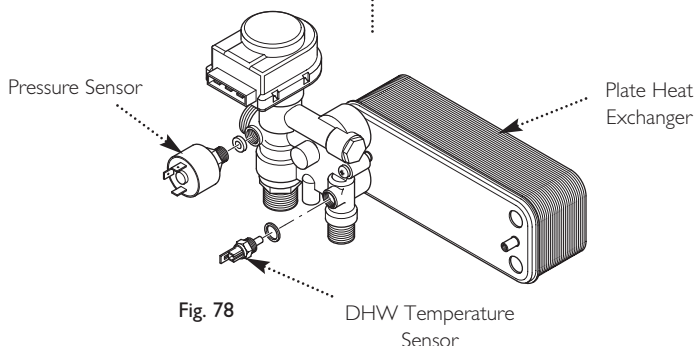

Fig. 78
14.9 Water Pressure Sensor (Fig. 78)
14.12 DHW Temperature Sensor (NTC) (Fig. 78)